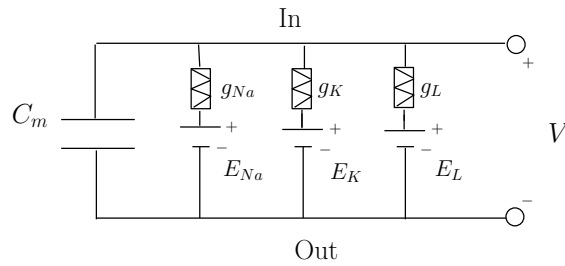

Figure 9.1 Electrical circuit of the HH-model
9.5 The Hodgkin and Huxley model is derived upon the idea of seeing the membrane of the neuron as an electrical circuit, see Fig. 9.1. We will now simulate the behavior of its different electrical components.
- c. The currents through the conductances for Na and K depend in a non-linear fashion on the voltage V . However, if we denote the currents i_{Na} , i_K and i_L we can now determine the current that is fed to the capacitance by Kirchoff's law, i.e., $i(t) = i_{Na} + i_K + i_L$. In the electrical circuit in Fig. 9.1 we have excluded the external current. However it can be included as a current source in parallel with the capacitance. Write down the dynamics for the full circuit.